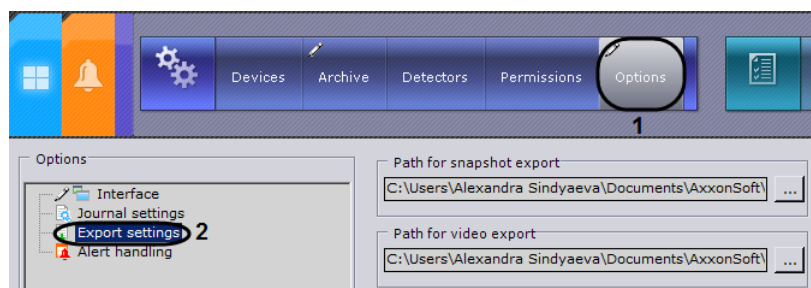

Fig. 6.10—1 Configuring export
1. Go to **System settings**⇒**Options**⇒**Export settings** (Fig. 6.10—1, 1-2).